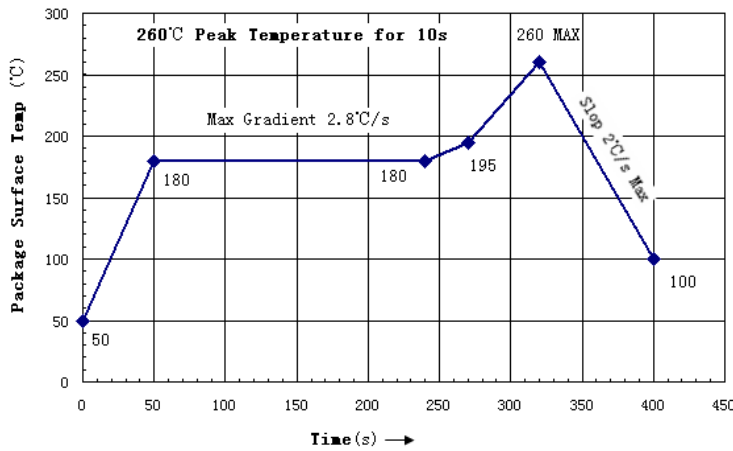

Figure 8
- ◆ Figure 8 is the reflow profile for Pb free process